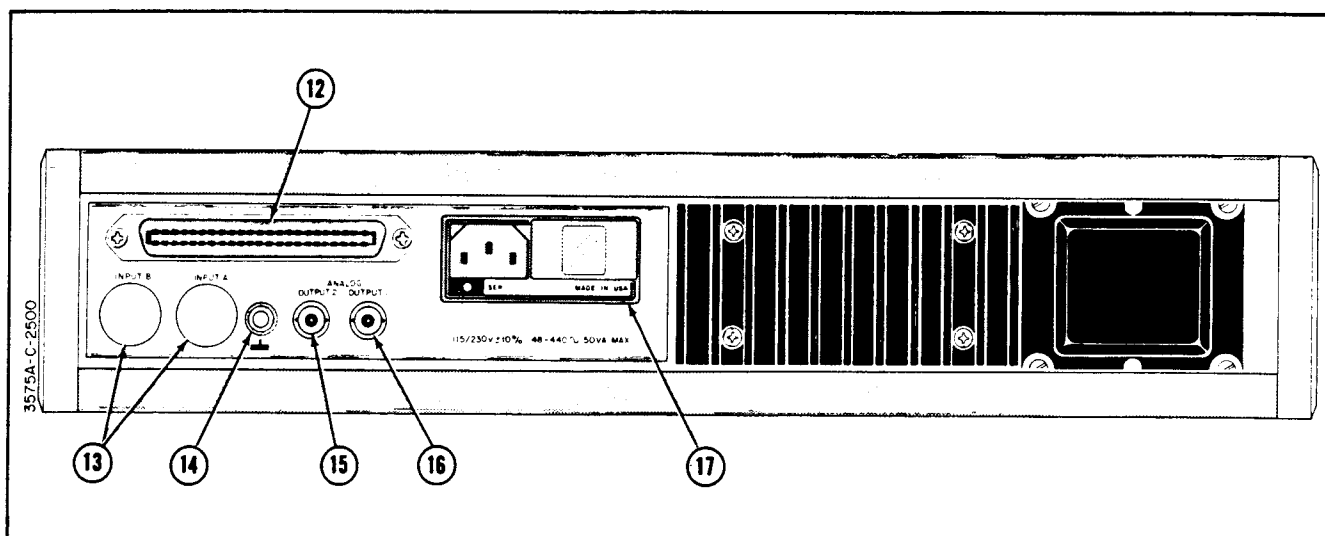

Figure 3-2. Rear Panel Description.
b. When using a printer it is necessary to supply a Remote Measure command to the 3575A to initiate the measurement cycle. When the printer cable is connected to the 3575A, the Remote Measure line (J1 pin 21) is not accessible. For this reason, a test point labeled "TRIGGER" is provided on the Interface Assembly, A16B. The "trigger" test point is connected directly to the Remote Measure line. For convenience, install a female BNC connector (-hp- 1250-0083) in one of the holes provided on the rear panel (Item 13, Figure 3-2) and connect a short piece of wire between the BNC connector and the "trigger" test point on A16B. Apply the Remote Measure command to the BNC connector. (Also see Paragraph 3-80)
A ground terminal (Item 14, Figure 3-2) is provided on the 3575A rear panel to permit external grounding. In cases where ground loops are critical and difficult to control, it is sometimes beneficial to connect a short piece of copper braid between this ground terminal and the chassis of the signal source. Factory tests have indicated, however, that the length and positioning of the copper braid can be critical. Before using this technique in a measurement application, experiment with various ground points, lead lengths and lead positions to establish a grounding method that ensures accurate, repeatable readings in your particular situation.